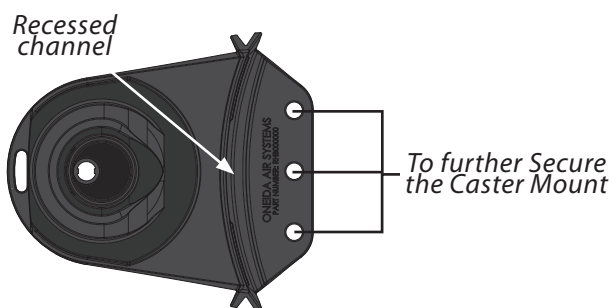

FIG. 6a
The Caster assemblies must be adhered to the Bucket (F) with a single smooth motion so that the bottom edge of the Bucket fits within the recessed channel of the Caster Mount [FIG. 6a].